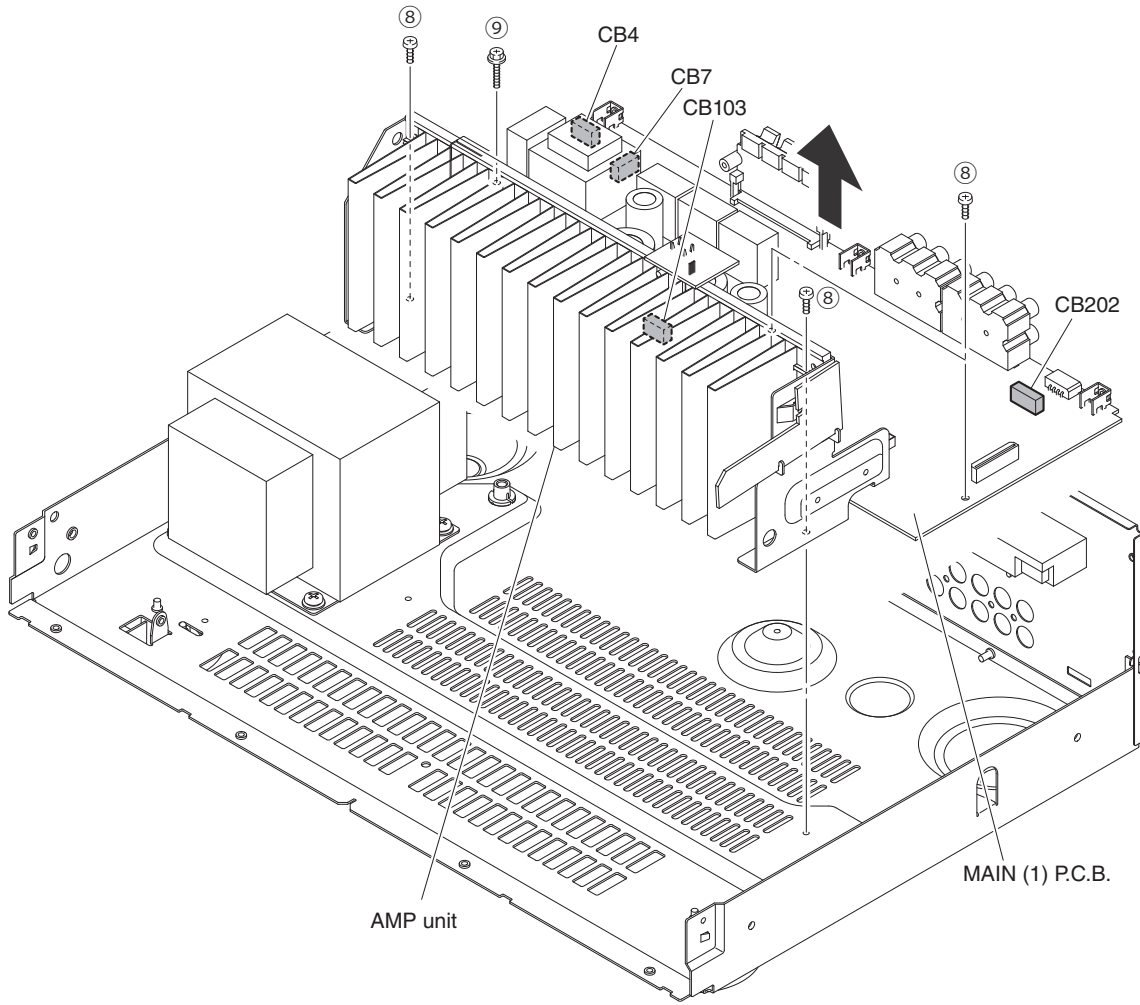

Fig. 2
- b. Remove 4 screws (⑧) and screw (⑨). (Fig. 2)
- c. Remove CB4, CB7, CB103 and CB202. (Fig. 2)
- d. Remove the AMP unit. (Fig. 2)